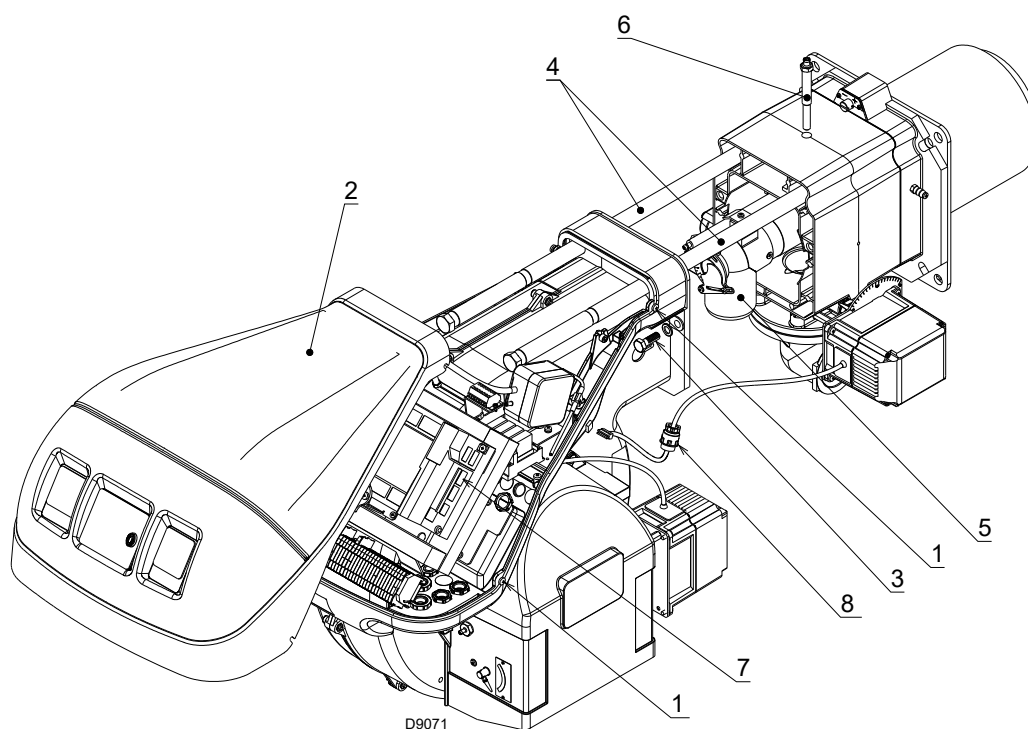

Fig. 38
Make sure that the gas outlet holes for the start-up, on the combustion head distributor, are free of dirt or rust deposits. If in doubt, disassemble the elbow (Fig. 38 at page 37).
- Loosen the 4 screws 1)(Fig. 38) and remove the cover 2);
- connect the plug of the servomotor 7)(Fig. 38) and tighten the grommet 8);